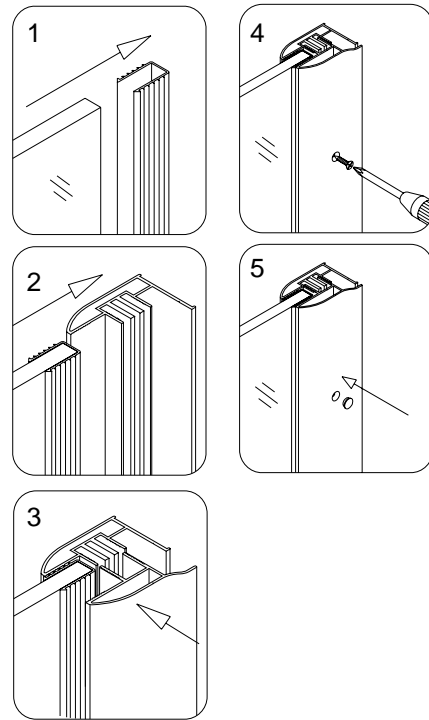

Fig 2
2. Attach the **Glass Profile (01)** to the wall profile using **ST4.2x18 Flat head self-tapping screws (11)** and slightly fasten the profile. Locate the **stationary glass panels (03, 04)**. Place the **U-shape seal gasket (16)** on the long (vertical) side of the glass panel; then fit the glass with the gasket into the assembled wall profile channel and fasten it tight. Cover the holes with **Plugs (10)** See Fig.2 for details.